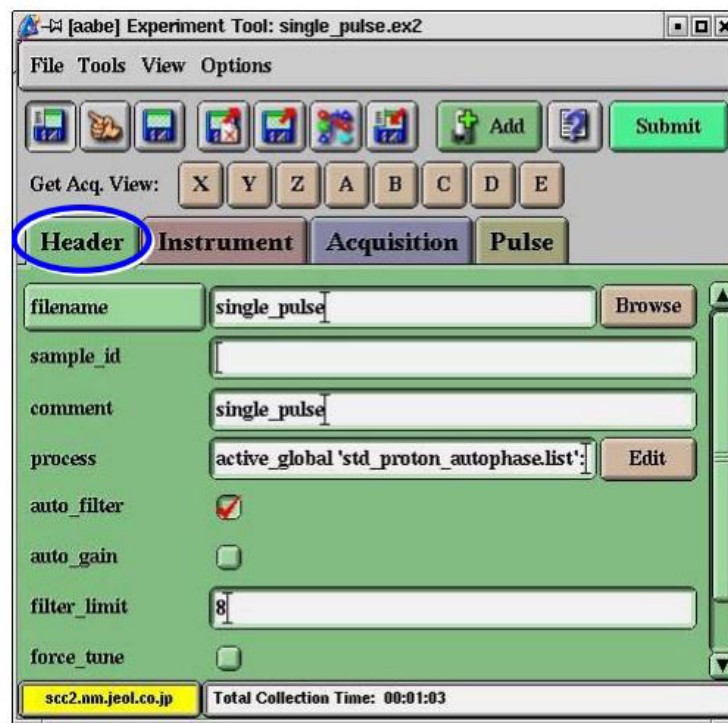

Fig. 3.4: Experiment Tool Window
- vi. Experiment Tool window is displayed as below (Refer Fig. 3.4)
- vii. At Header Section (Fig. 3.4), enter